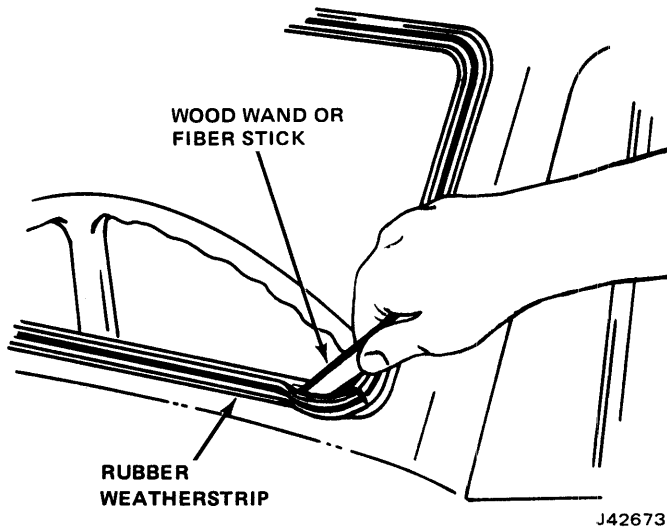

Fig. 17-4 Unlock Rubber Weatherstrip
(6) Unlock the rubber weatherstrip starting at the bottom with a fiber stick or wand (fig. 17-4).